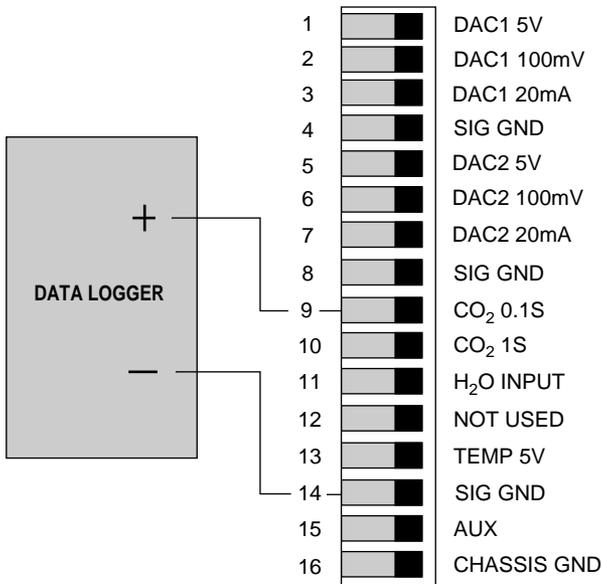

Figure 7-3. Connection of data logger for non-linear output.
- Connect the positive input of the data logger to the terminal labeled **CO2 0.1S** (see Figure 7-3).